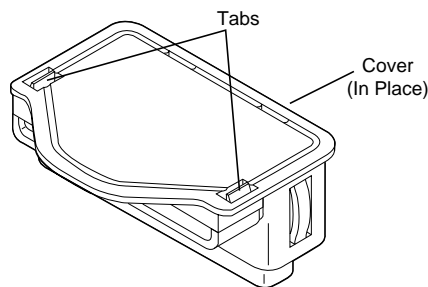
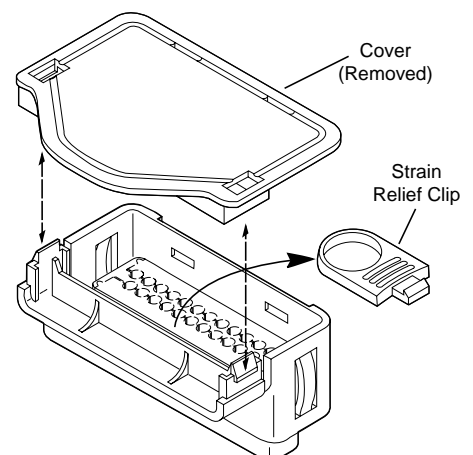

Figure 22
Figure 23
1. Squeeze tabs together (See Figure 22), and remove the cover from the accessory plug (See Figure 23).